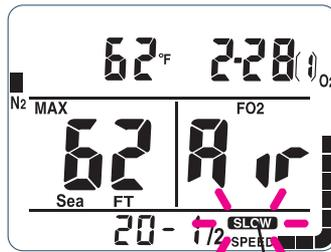

Figure 10
**Ascent rate warning:** If the ascent rate warning is activated it is recorded in the log. The SLOW icon will blink when the dive log is displayed. (Fig. 10)